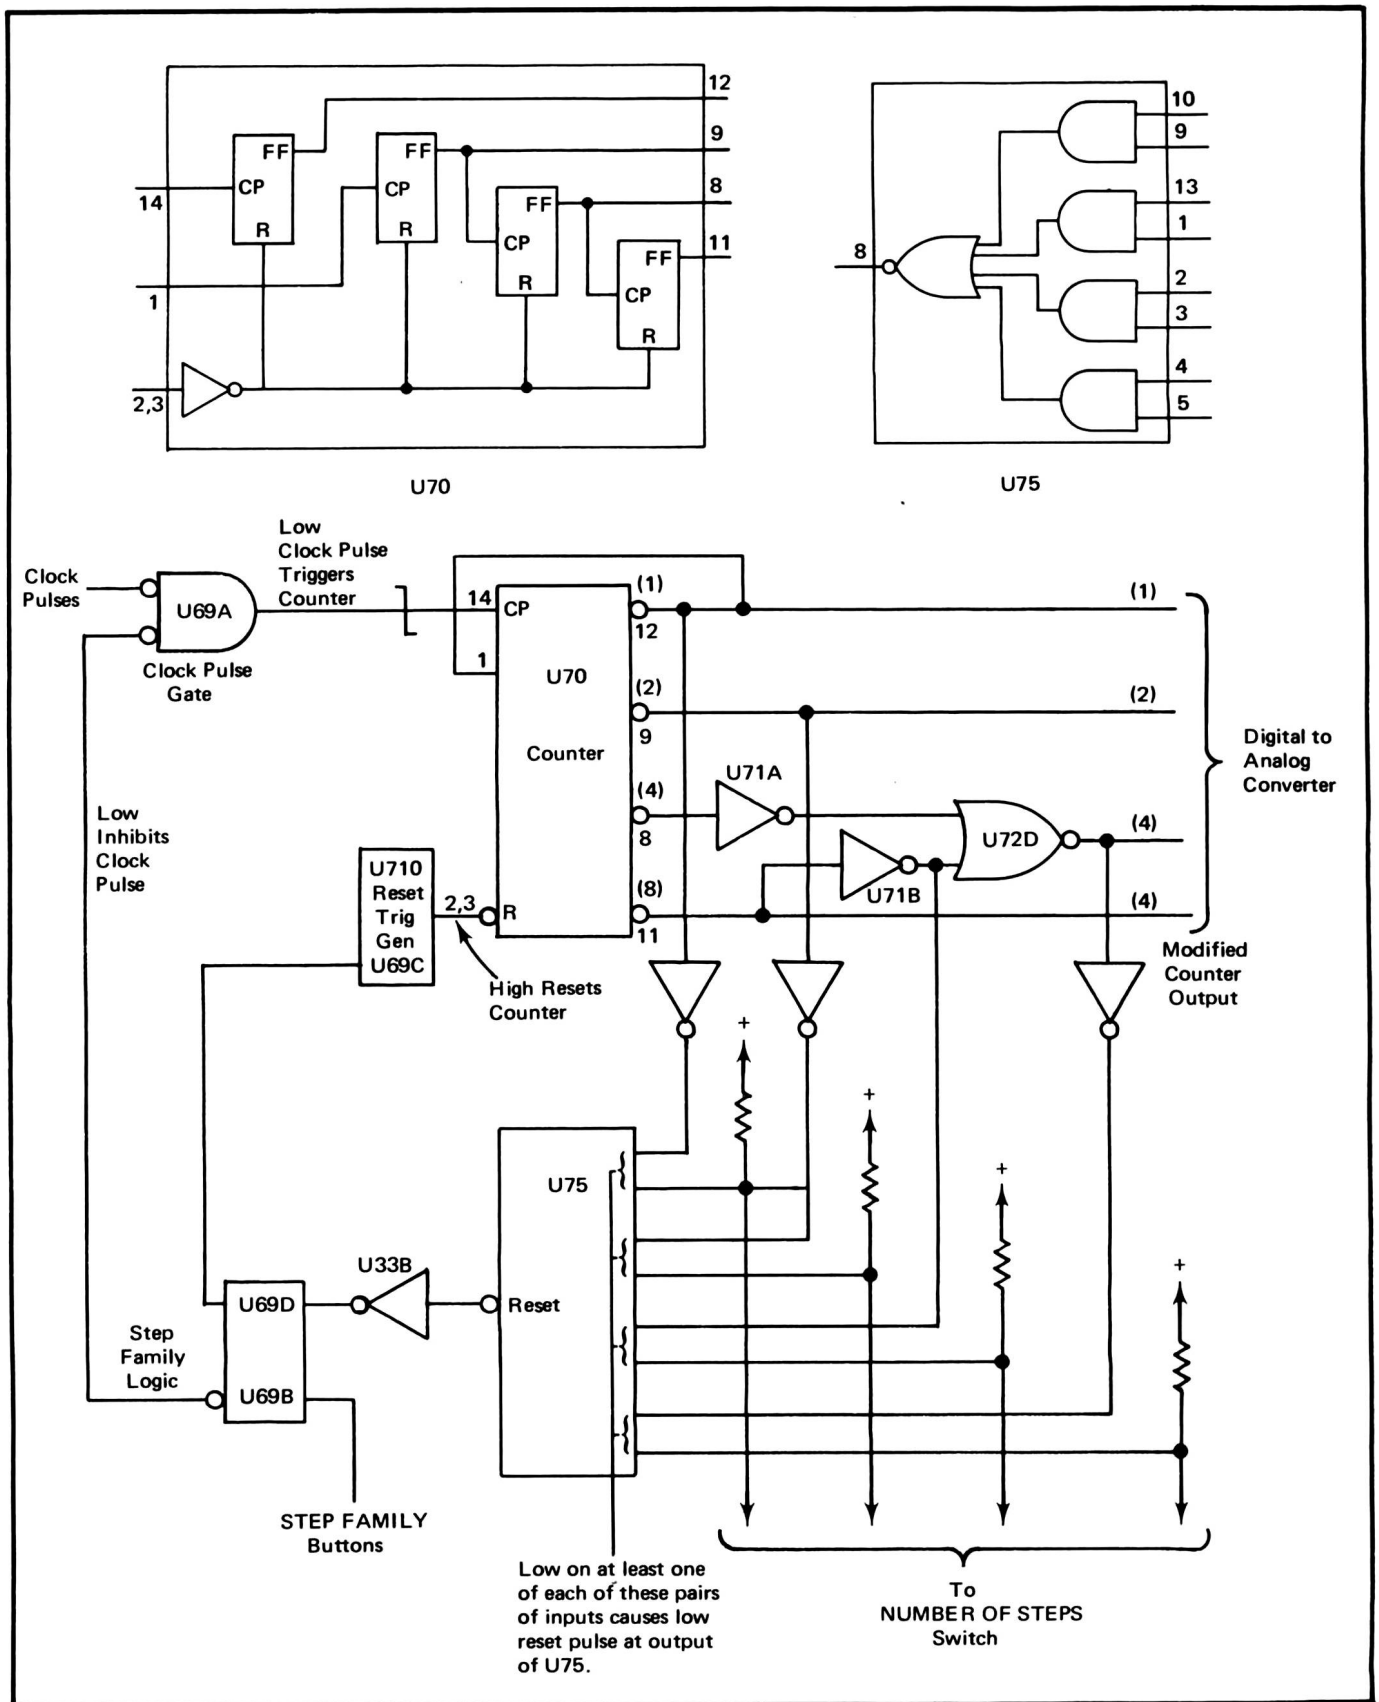

Fig. 3-5. Block diagram of counter and reset logic.
**Counter.** When the clock circuit generates a clock pulse, it is counted by the counter (see Fig. 3-5). The counter counts clock pulses until it reaches a preset number, then resets and begins counting again. Each time the counter counts, it changes a four-bit binary code which is applied to the digital-to-analog converter.
U70 is a divide-by-16 counter with the outputs of all four of its internal flip-flops utilized (see Fig. 3-5). A negative pulse at the pin 14 input of U70 causes a count to be recorded by the flip-flops. In recording a count, the flip-flops assume high or low states according to a 1-2-4-8 binary code. A high state represents the presents of either a 1, 2, 4 or 8. A low state represents a 0. Output terminals 12, 9, 8 and 11 of U70 represent 1, 2, 4 and 8 respectively. By connecting pin 8 and pin 11 of U70 to U72D through inverters, the 1-2-4-8 code of the U70 outputs is modified to a 1-2-4-4 code. The truth table in Table 3-1 shows the state of each modified counter output for successive counts counted by U70 up to 11. Whenever U70 is reset, it returns to the zero count state with lows on all the outputs.